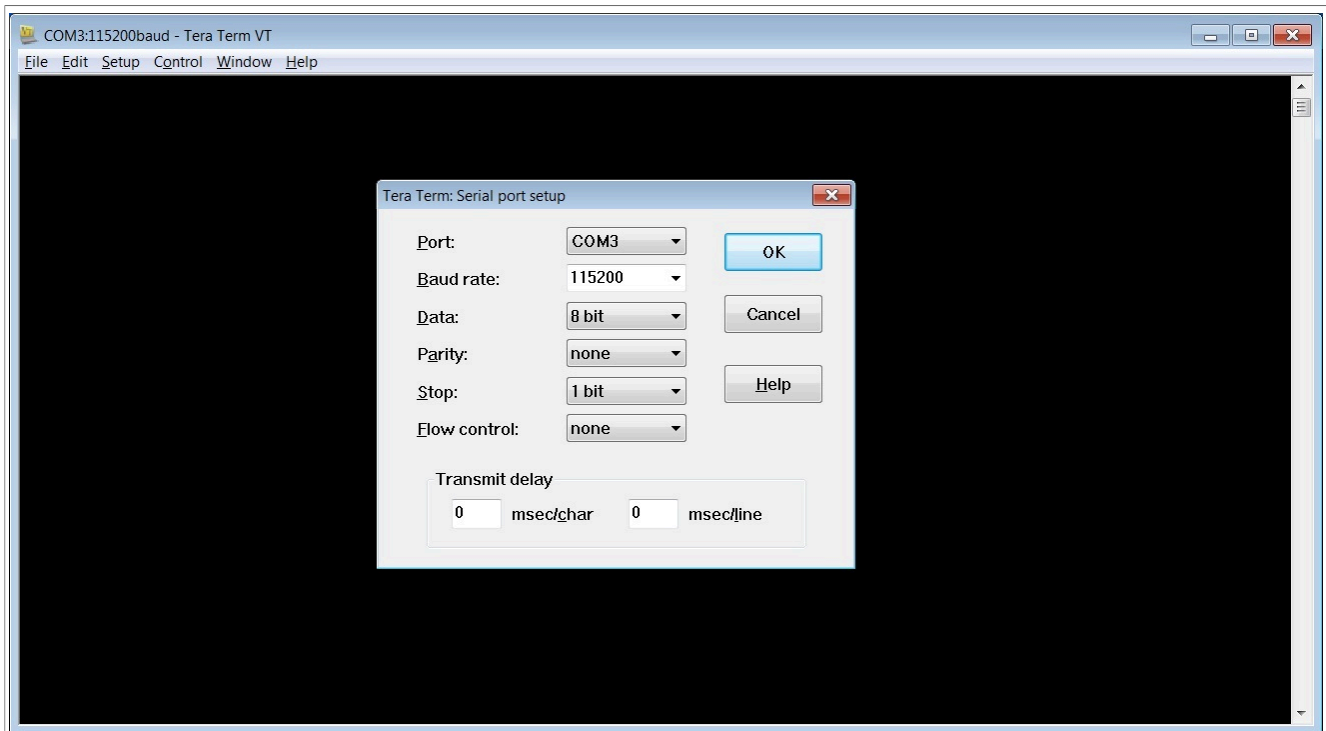

Figure 8. Connecting to the i.MX console via a terminal
5. Install a Terminal emulator on the Laptop for enabling console display of the i.MX boards through the serial/USB ports, as shown in the Figure 8.